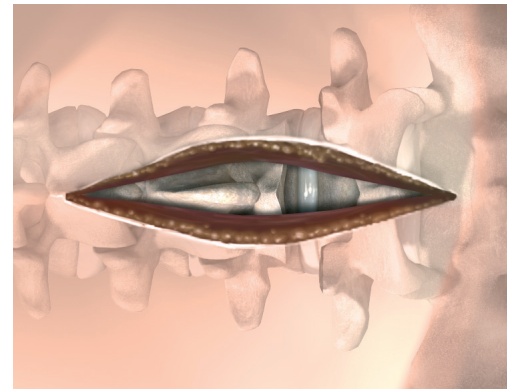

Figure 2
- ▲ Locate the correct operative level under fluoroscopic guidance. Incise the skin and dissect laterally from the midline (Fig. 2).